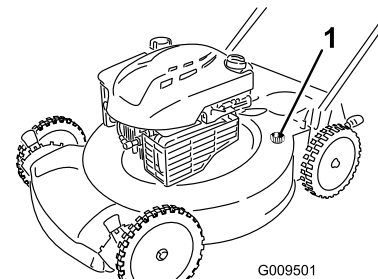

Figure 25
4. Attach a garden hose that is connected to a water supply to the washout port on the machine housing (Figure 25).